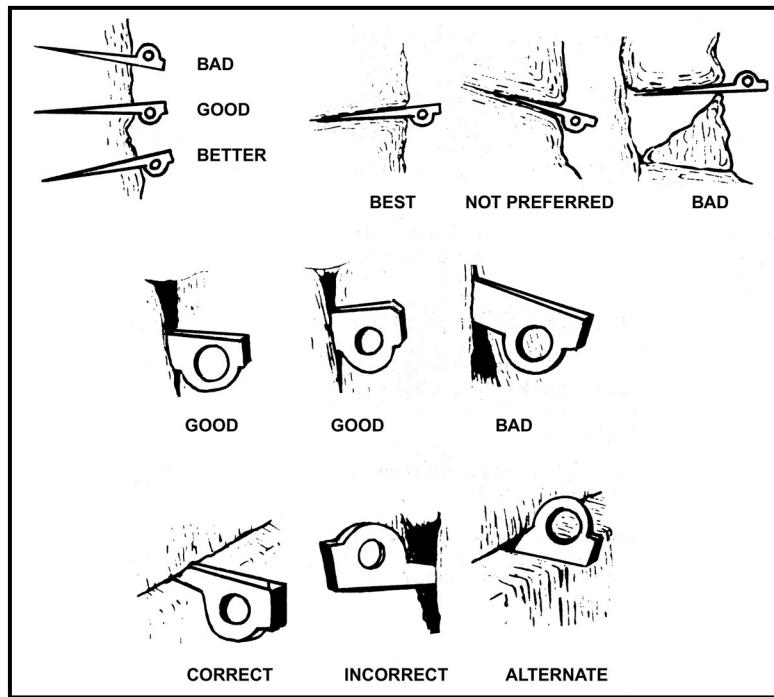

Figure 5-12. Examples of piton placements.
- c. **Piton Placement.** The proper positioning or placement of pitons is critical. (Figure 5-12, page 5-10, shows examples of piton placement.) Usually a properly sized piton for a rock crack will fit one half to two thirds into the crack before being driven with the piton hammer. This helps ensure the depth of the crack is adequate for the size piton selected. As pitons are driven into the rock the pitch or sound that is made will change with each hammer blow, becoming higher pitched as the piton is driven in.
- (1) Test the rock for soundness by tapping with the hammer. Driving pitons in soft or rotten rock is not recommended. When this type of rock must be used, clear the loose rock, dirt, and debris from the crack before driving the piton completely in.
- (2) While it is being driven, attach the piton to a sling with a carabiner (an old carabiner should be used, if available) so that if the piton is knocked out of the crack, it will not be lost. The greater the resistance overcome while driving the piton, the firmer the anchor will be. The holding power depends on the climber placing the piton in a sound crack, and on the type of rock. The piton should not spread the rock, thereby loosening the emplacement.